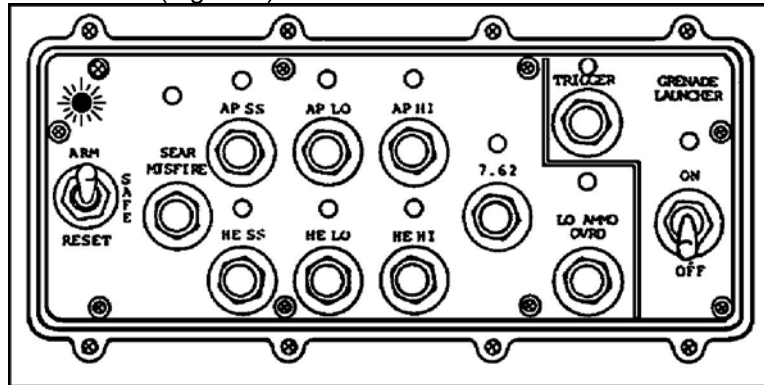

Figure 1. Weapon control box.
- b. During training, if the TOW missile does not fire, move the ARM-SAFE-RESET switch to RESET, then to SAFE (Figure 1).